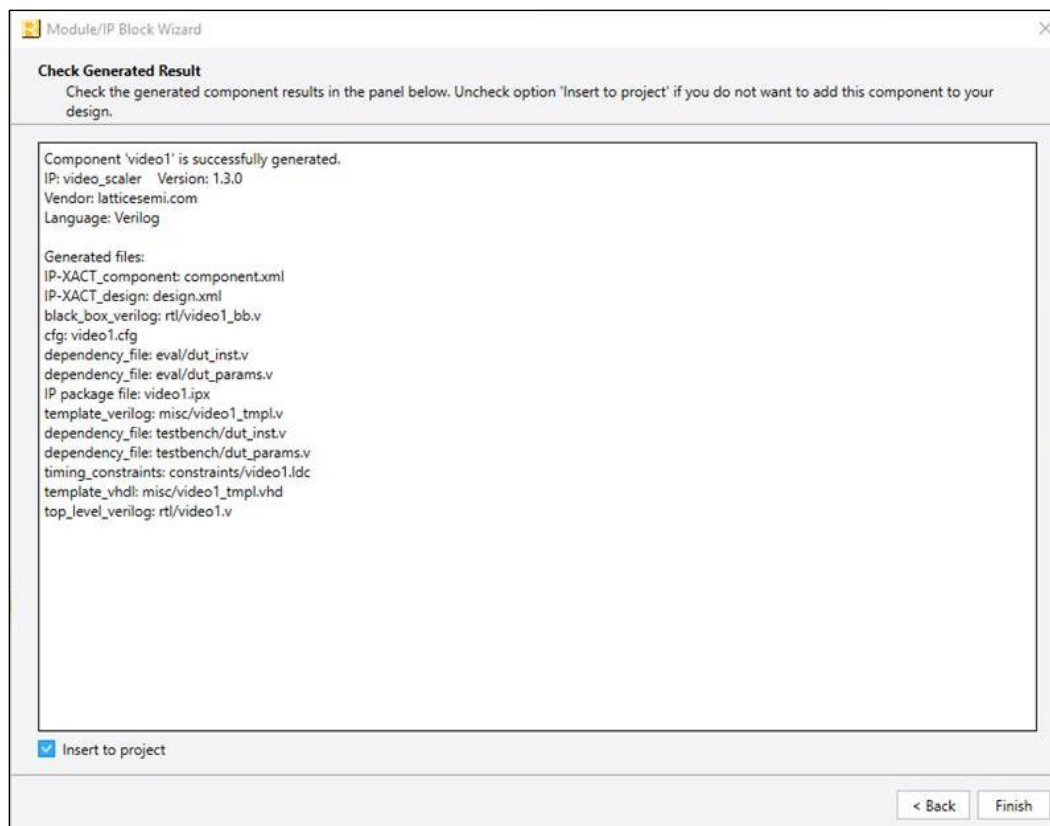

Figure 6.3. Check Generating Result
6. Click **Generate**. The **Check Generated Result** page opens, showing design block messages and results as shown in Figure 6.3.